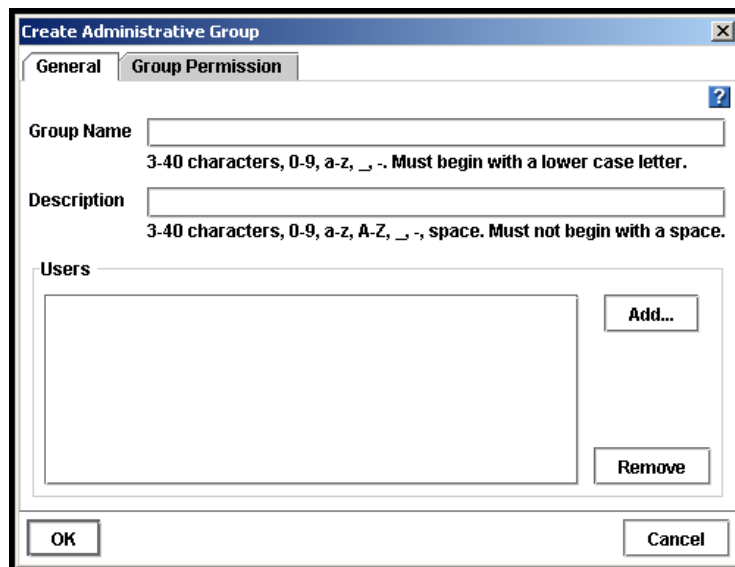

Figure 102. Adding an Administrative Group
Administrative groups are listed on the SSM Administration window on the Groups tab, shown in Figure 102.
2. Click Add on the Groups tab. The Create Administrative Group window opens, shown in Figure 102.